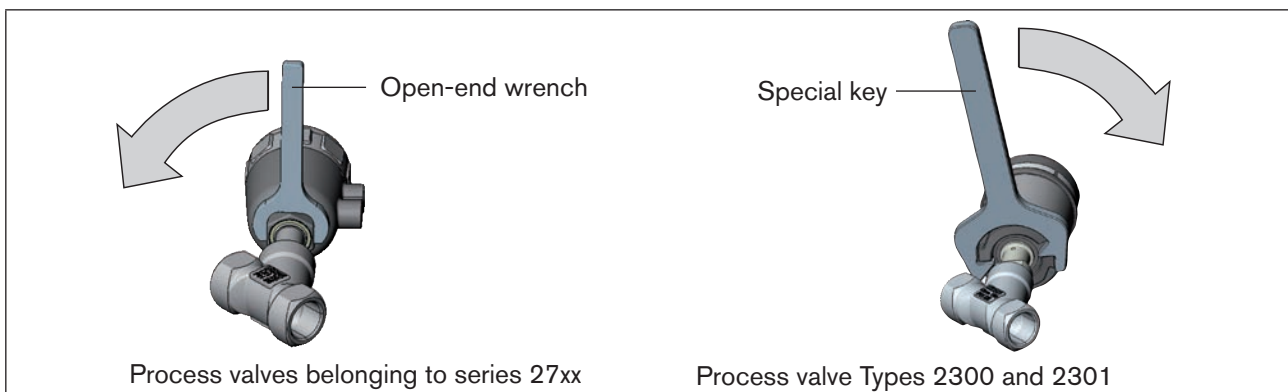

Figure 22: Specified direction of rotation and tool for turning the actuator module
- ▶ The actuator module **must only be turned in the specified direction** (see “Figure 22: Specified direction of rotation and tool for turning the actuator module”)!